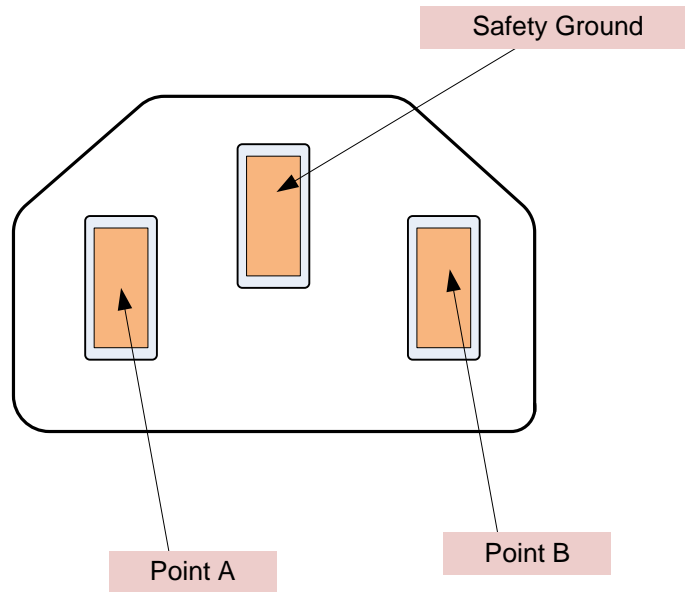

Figure 6. Test Point Locations.
3. Connect the black multimeter lead to the safety ground location by inserting the probe tip into the hole in the cord. Carefully insert the red multimeter lead into position A shown in Figure 6. Do not contact any bare metal parts of the probe tip with your skin when making this connection. Note the voltage reading and place it in the first entry of Table 3 at the end of the lab.